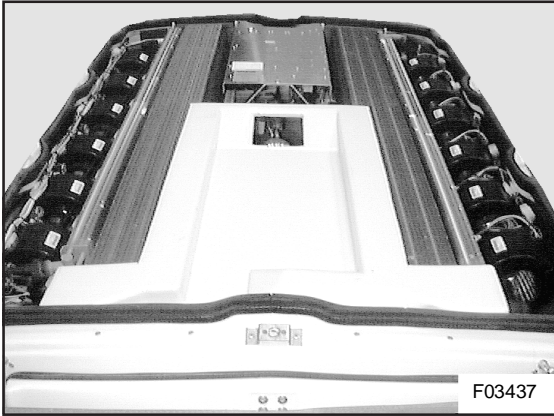

Figure 9: End position of air duct deflector plate
12. Slip fresh air duct deflector plate over evaporator and heater coils as indicated in figure 9.